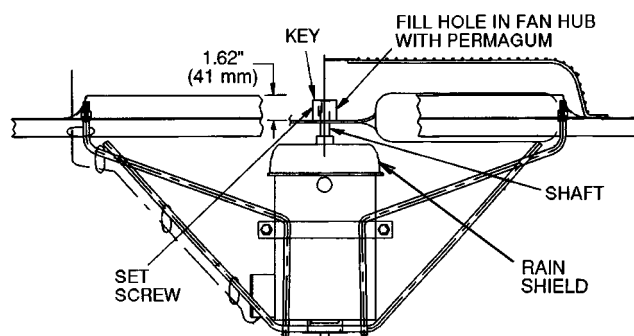

Fig. 18 — Location of Propeller on Motor Shaft from Outside of Orifice Ring, 576B
14. Install the rainshield (supplied with the accessory kit) over the fan motor. Reinstall the fan propeller, set clearance, and reinstall fan guard. See Fig. 18.